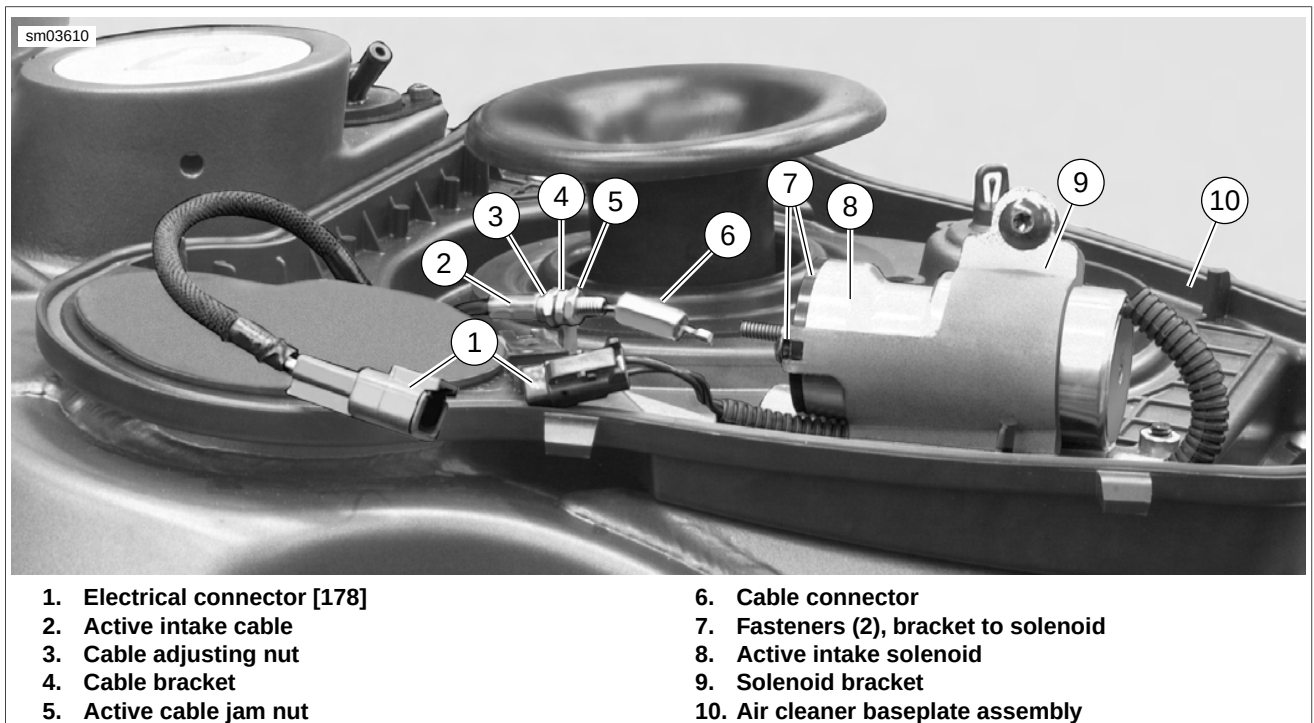

Figure E-4. Disconnecting Active Intake System
1. See Figure E-4. Disconnect electrical connector [178] (1).
2. Hold solenoid shaft by flat spot provided and break cable connector (6) loose.
3. Unthread cable connector and disconnect cable from solenoid (8).
4. Loosen jam nut (5) and disconnect active cable (2) from cable bracket (4).
1. See Figure E-4. When installing baseplate assembly (10) see 4.2 AIR CLEANER ASSEMBLY